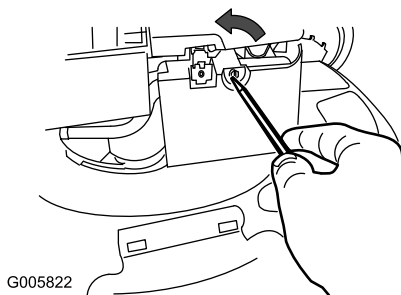

Figure 32
1. Use a screw driver to open the air filter cover (Figure 32).